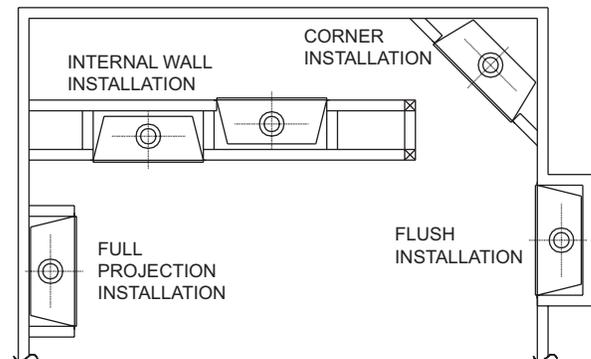

Figure 1 - Possible Locations for Installing Appliance
- A location that avoids the cutting of joists or roof rafters will make installation easier. Figure 1 shows a plan view of a few common locations.